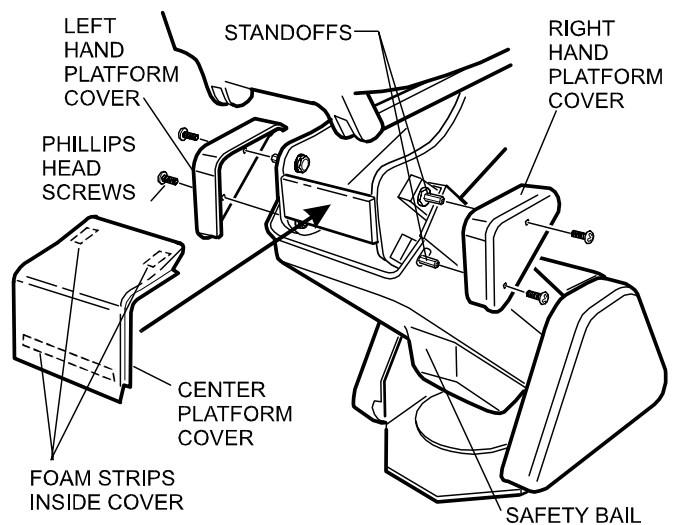

Figure 6
2. Position the center platform cover in place as shown (See Figure 6).
WARNING: After the covers are installed, check the Safety Bail (See Figure 6) and make sure it moves freely up and down to operate the base safety switch. This is important for safe and proper chair operation.